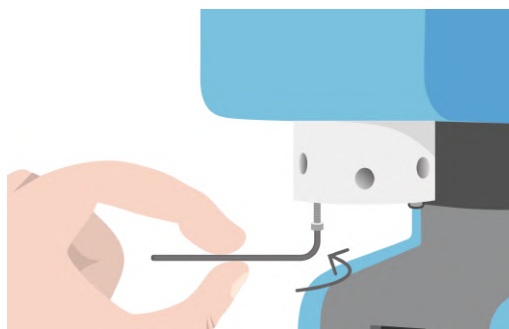

FIGURE 4.18 – Attach the valve using the 2 screws
6. Screw both screws using a hex key to attach the valve on the pump (see Figure 4.18).